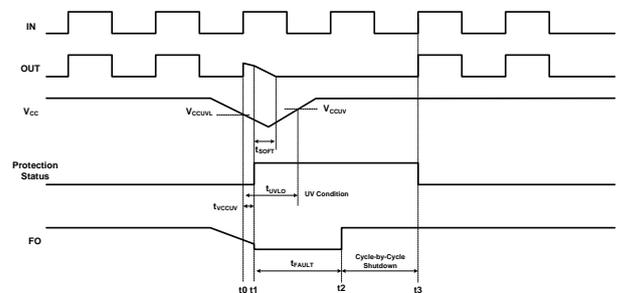

Figure 47. Timing chart of $t_{UVLO} < t_{FAULT}$ condition
Gate drive output is softly turn-off and Fault-Out (FO) stays in the low state during fault-out time (typical 110 μ s) when the duration of under-voltage condition (t_{UVLO}) less than fault-out time (t_{FAULT}) as shown in Figure 47.